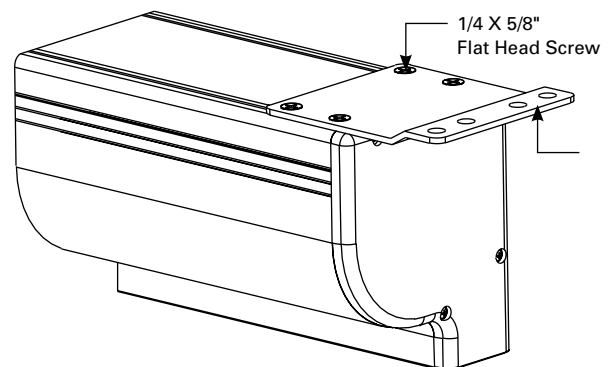

Figure 3
2. Using a #2 Phillips screwdriver, loosen the four 1/4" x 5/8" screws holding the ceiling flush mount brackets (Figure 3).
4. Tighten the four 1/4" x 5/8" screws holding the ceiling flush mount brackets (Figure 3).
2. Remove the ceiling flush mount brackets using a #2 Phillips screwdriver (Figure 3). Retain four 1/4" x 5/8" screws.